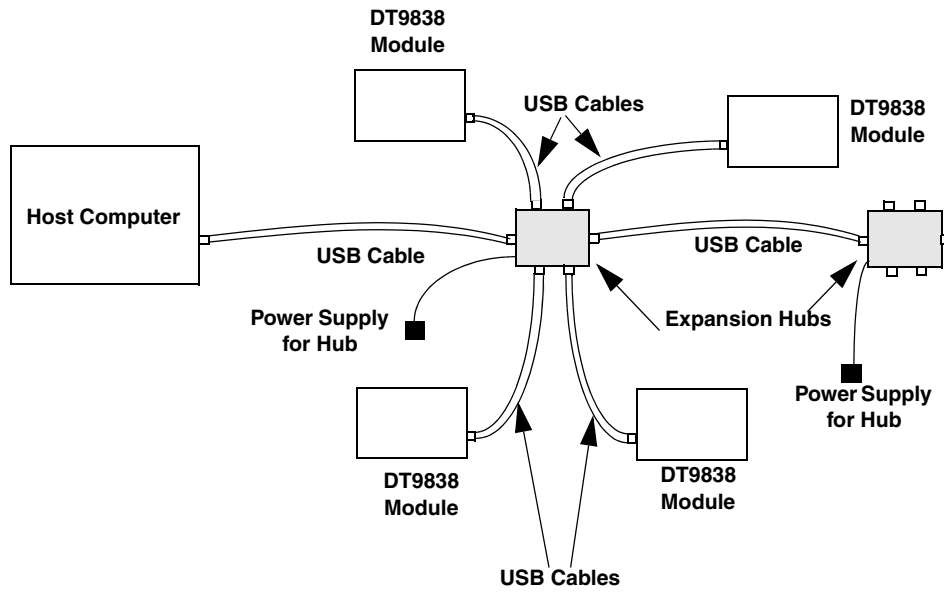

Figure 11: Attaching Multiple Modules Using Expansion Hubs
5. Repeat these steps until you have attached the number of expansion hubs and modules that you require. Refer to Figure 11.